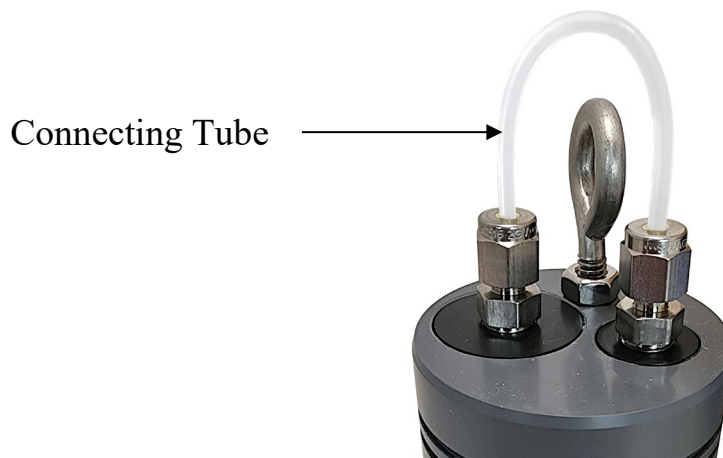

Figure 4 – Tube Connecting Vent and Liquid Sides of Reservoir
- 6) Connect the 4" (100mm) long, 1/8" diameter plastic tube to the Swagelok fittings using the supplied Swagelok caps (Figure 4). Tighten the Swagelok connectors per the instructions in Section 2.2.